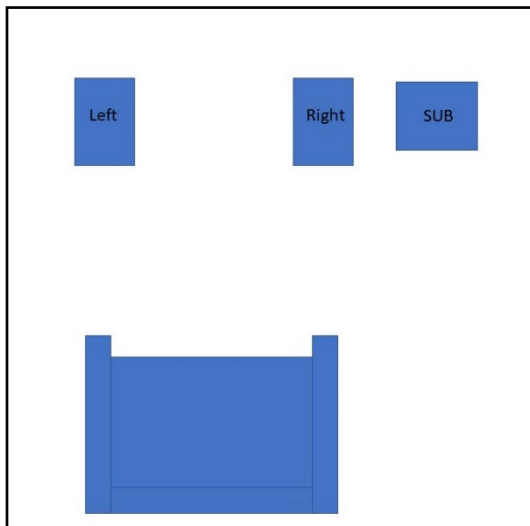
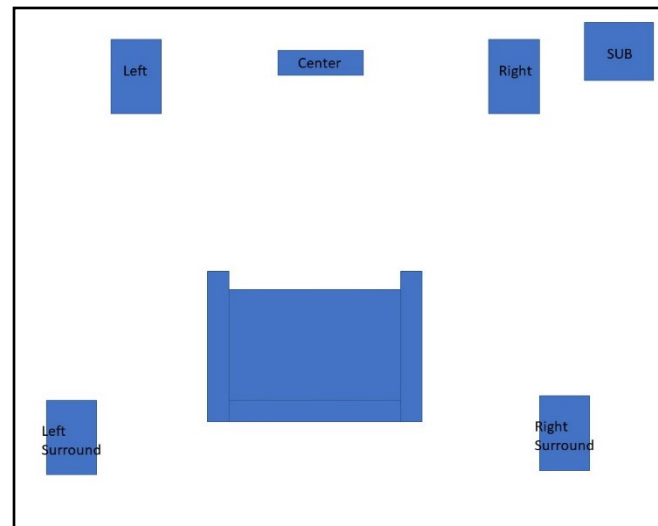

FIG 1
FIG 2
When using the subwoofer in a stereo setup its ideal location is generally between the main speakers or closely positioned beside them. See Fig. 1.
When the Totem subwoofer is used in a home cinema system it is recommended to place it in a corner. See Fig.2. Be careful not to place the subwoofer too close to the corner, or it will start to sound congested, causing detail loss. Also make sure not to place the sub equidistant from the two walls in your corner.
**LFE/Sub Out Connection (FIG 1):** This is the simplest and most common connection. It works for any receiver or amp with a dedicated subwoofer output. Use a subwoofer cable to connect the amp/receiver’s SUB OUT (Can also be called LFE Out, or PRE-OUT on pre-amps and surround processors) to the LFE (low Frequency Effect) input on the sub.
**Stereo Pre-Out (FIG 2):** If the amplifier/receiver is equipped with stereo (Right and Left) Pre Outputs then it can be connected to the subwoofer’s right and left inputs with a stereo RCA wire. This is a common connection with integrated amplifiers.
The Tribe Solution SUB can be positioned on its "back" (FIG 1), with woofers facing upwards, allowing it to conveniently be placed under furniture. Screw the supplied bolts through the 4 large feet (FIG 2) and into the inserts located at the corner extremities.